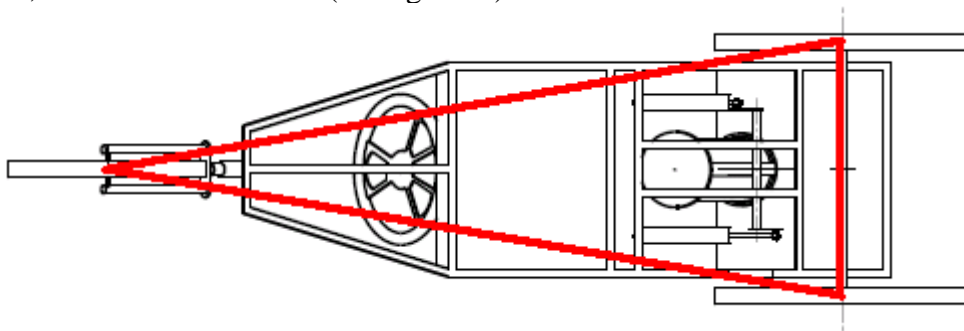

figure 1.
- c) In case of 3-wheels vehicles, the smallest angle in the triangle, which is bordered by the wheels, should be at least 30° (see figure 1.)